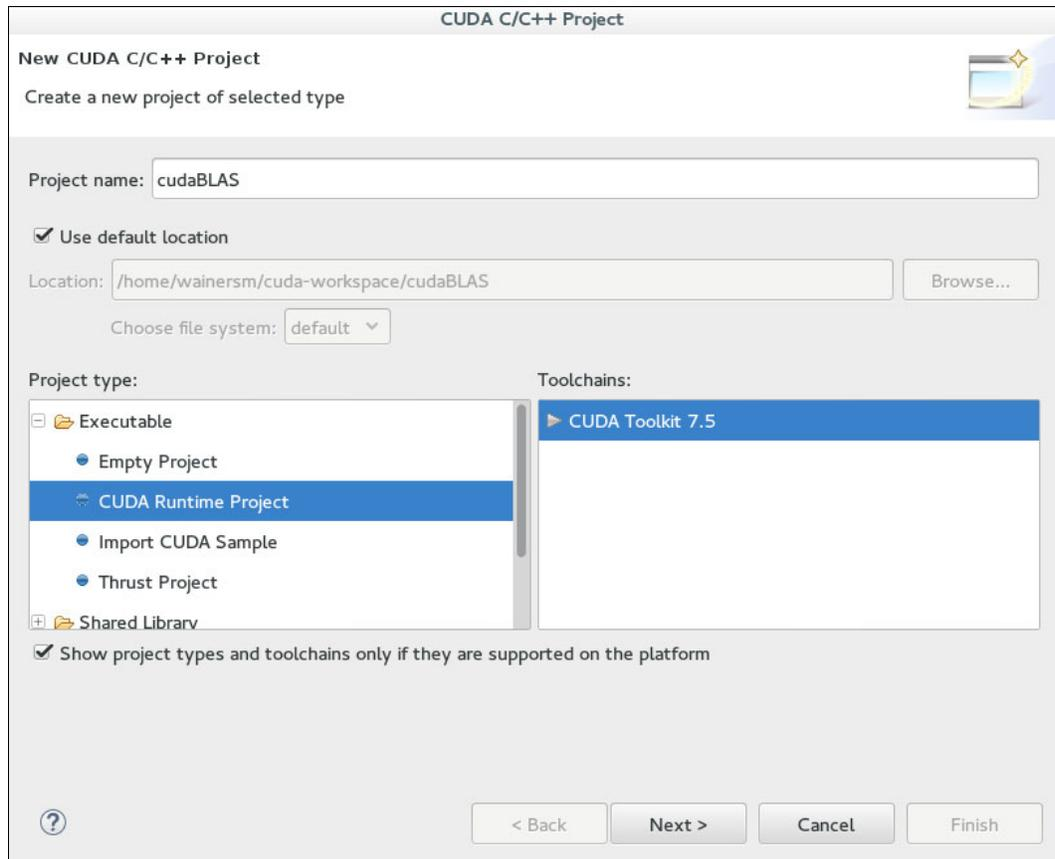

Figure 6-13 Nsight: New CUDA C/C++ project wizard
1. On the main menu tool bar, click **File** → **New** → **CUDA C/C++ Project** to open the window shown in Figure 6-13.